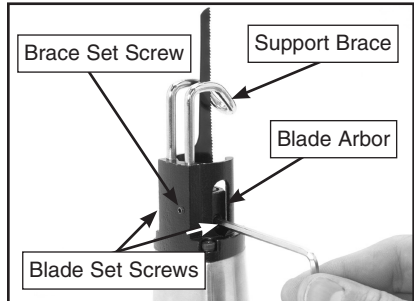

Figure 2. Tightening the set screws.
2. Use the 3mm hex wrench to loosen the blade set screws located on both sides of the blade arbor (**Figure 2**).
2. Use the 1.5mm hex wrench to loosen the set screw located on the back of the safety set (**Figure 2**).